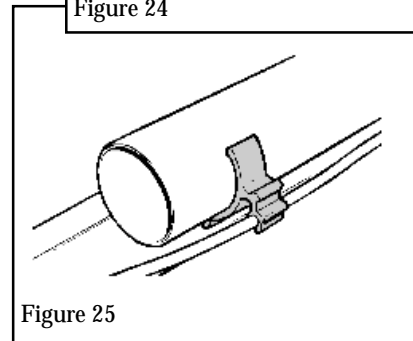

Figure 25
8.10 Fit the fan cable into the “C” sections at the bottom of the support brackets (see figure 25).